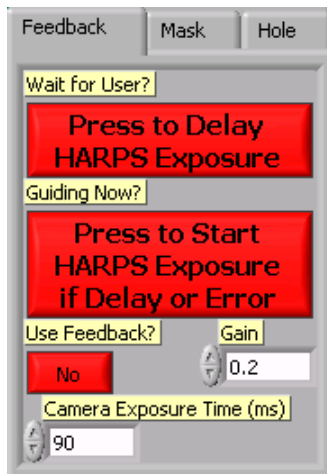

Figure 10 - Feedback panel
- 1) When the guide begins to show images and before that the exposure start, the operator has to freeze the starting of autoguider by clicking on the **“Press to Delay HARPS Exposure”** button of the Feedback menu in the **HARPS-N Autoguider** window (Figure 10).
- 6) Selects the **Feedback** menu and click on the **“Press to Start Harps exposure if delay or Error”** button (Figure 10).